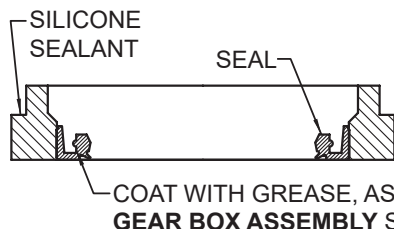

FIGURE19
10. Install grease seals in bearing retainers. Coat seal lips with grease conforming to ISO 220, NLGI grade 2 or NSF USDA-H1. Coat retainer flanges with silicone sealant. Install retainers. Refer to **Figure 19**.